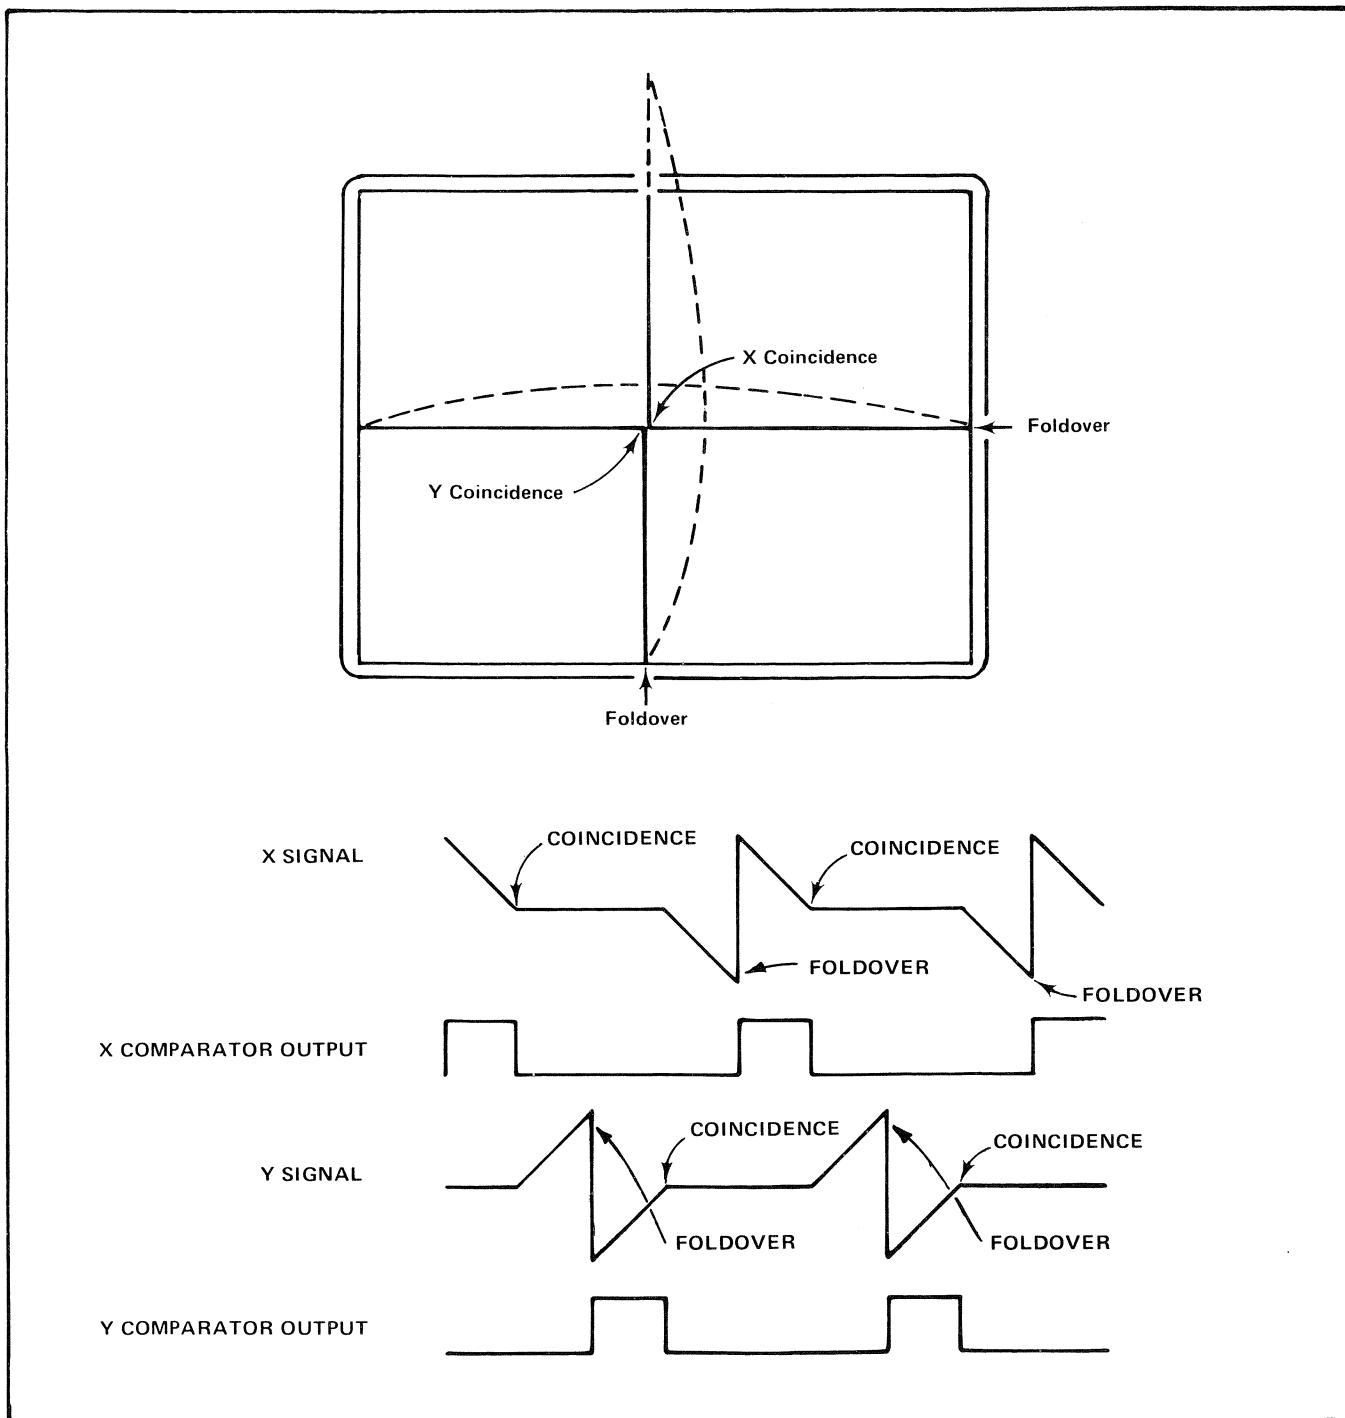

Fig. 6-2. Drawing a Crosshair Cursor Display.
**Cross-Hair Generator.** When CURSE goes low, the Cross-hair Generator is activated. When first activated, the Cross-hair Generator begins sending DOWN pulses to the Y Register. Each time it pulses, it sends a short Z pulse to turn on the display beam. As the Y Register output decrements, it causes the output of the Y D/A to change accordingly. Thus, the display beam begins moving in the down direction. The output of the Y D/A is being sampled by the Cross-hair Generator. When this voltage changes to the point where it just passes the voltage from the Y position Potentiometer, the counting pulses switch to the RIGHT line. This is known as "Y coincidence". The Y Register maintains its value while the X Register is incremented. The output of the X Register increments once with each low RIGHT pulse, causing the output of the X D/A to change accordingly. When the analog voltage at the output of the X D/A just passes the voltage input to the Cross-hair Generator from the X Position Pot, "X Coincidence" is reached, and the count once again switches to the Y Register. See Fig. 6-2 for illustration showing the generation of the Crosshair cursor.
**Foldover.** If the X Register begins counting to the right of the X Coincidence Point, the count continues to increment from the X Register until count 1023 is reached. When this occurs, the Most Significant Bit (MSB) of the X Register causes the Margin Shifter to output an End of Line (EOL) signal. This signal is input to the Crosshair Generator to inhibit the count of the X Register. This delay allows the display beam time to return to the left side of the display and stabilize before the count resumes. This is known as Foldover (see Fig. 6-2). The signal from the Crosshair Generator (as a result of this action) is FPAUSE. It inputs to the Format Effector to inhibit its functions during the time FPAUSE is active (0.5 ms). The count then continues